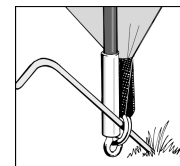

Figure 2.
- Start pegging out the tent at the front corners using V pegs. Pegs should be positioned at a 45° angle to ensure maximum grip (see figure 2).
- Peg the corners of the tent through the metal rings using pin-pegs. It is important to drive the peg into the ground at a 45 degree angle to obtain the best grip. **(See Figure 2)**.